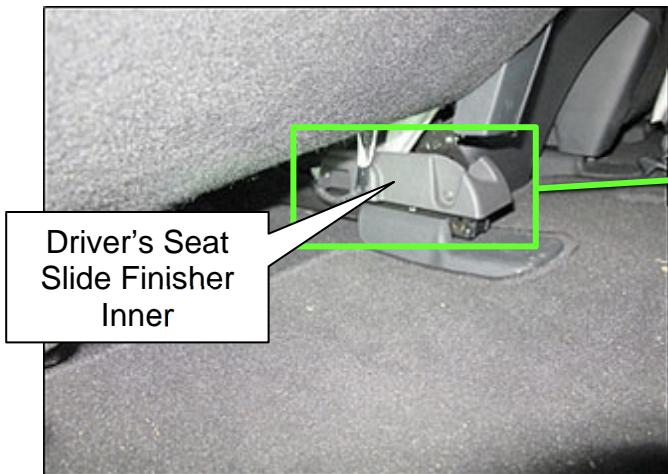

Figure 5
5. From the second-row seat area, locate the Driver's Seat Slide Finisher Inner (Figure 5).